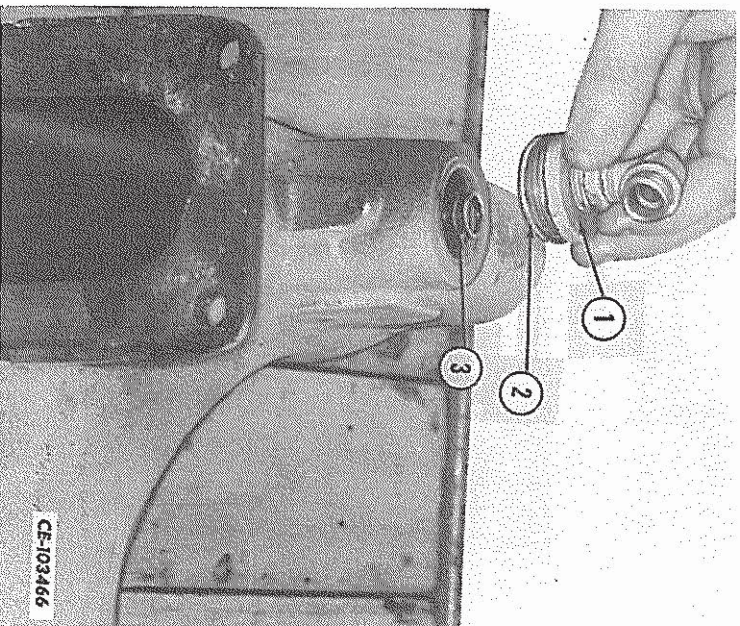

FIG. 16 — Removing the Poppet Spring Plug
4. Unthread the plug (1, Fig. 16) with reducer bushing and fitting from the shifter housing. Discard the sealing ring (2). Lift the poppet spring (3) from the housing bore.